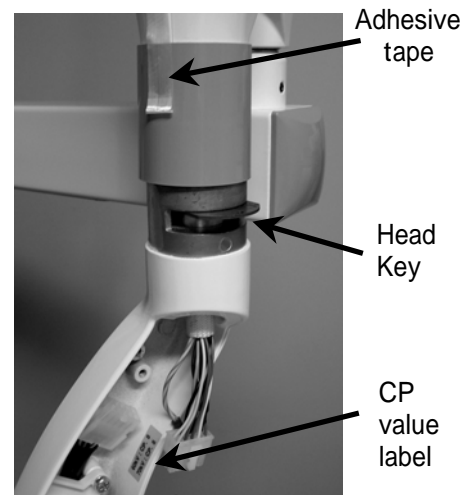

Fig. 4
6. Take out the head key (U shaped key) and remove the x-ray head from the arm. (Fig. 4)
2. Hold down the P (Patient), C (Cone), and K.V. switches together until "CP-XX" is displayed in the exposure time window. Press the exposure time adjusting switches ($\pi\alpha\theta$) and adjust the CP number so that it is the same value as 60kV, which is written on the label inside the head yoke. (Fig. 4) Press the P (Patient) switch to save its value. Be sure to hold down the P (Patient) switch until you hear two (2) beeps.
3. Press the kV switch, and the LED will show 70 kV. Press the exposure time adjusting switches ($\pi\alpha\theta$) and adjust the CP number so that it is the same value as 70kV, which is written on the label inside the head yoke. (Fig. 4) Press the P (Patient) switch to save its value. Be sure to hold down the P (Patient) switch until you hear two (2) beeps.